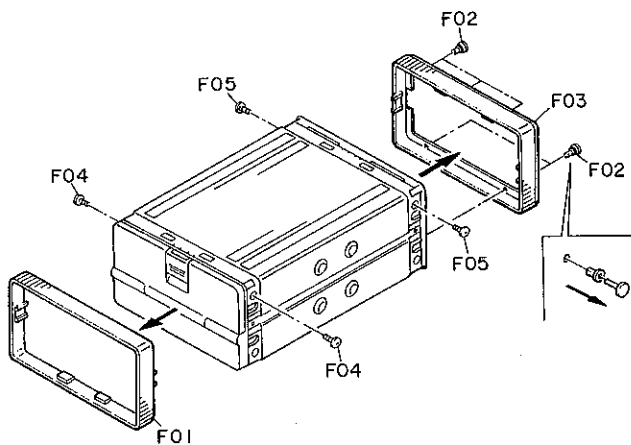
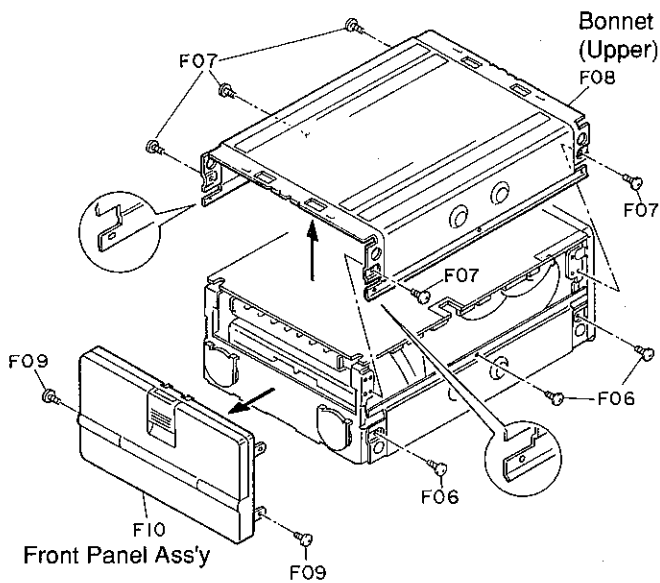

Fig. 2.1.1
Fig. 2.1.2
Refer to Figs. 2.1.1 and 2.1.2.
- (1) Remove F01 (Protector Front). See Fig. 2.1.1.
- (2) Pull out F02 (Push Rivet, 5 pcs.) and remove F03 (Protector Rear).
- (3) Remove screws F04 (2 pcs.) and F05 (2 pcs.).
- (4) Remove screws F06 (3 pcs.). See Fig. 2.1.2.
- (5) Remove screws F07 (5 pcs.) and F08 (Bonnet (Upper)).
- (6) Remove screws F09 (2 pcs.) and detach F10 (Front Panel Ass'y).
Install the Bonnet (Upper) so that the bent lower edge comes to the right side and the straight lower edge comes to the left side as shown in Fig. 2.1.2.